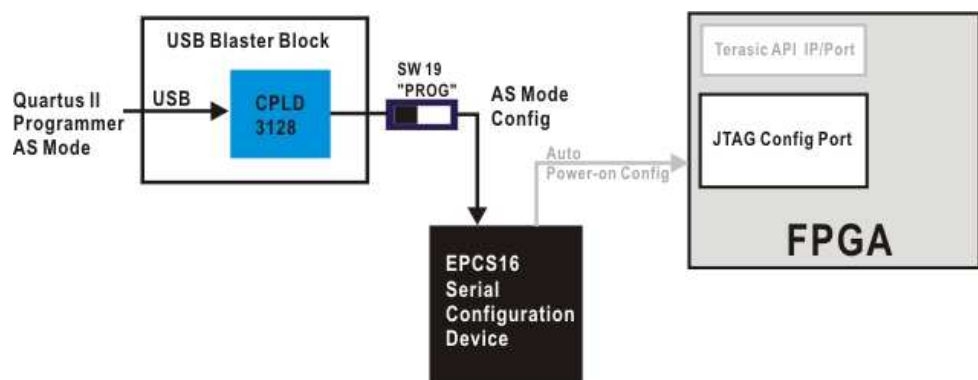

Figure 3.3 The connection and SW19 setup for AS mode programming
The bitstream can be downloaded via Active Serial Programming mode (AS mode). By default, the switch is set to the position of RUN for JTAG mode so that the SOF bistream file is downloaded directly to the FPGA chip. AS Mode, where POF bitstream is downloaded directly to the Flash-based Serial Configuration device, should be used only when the design is finalized or the design has to be tested without a PC. Set the switch to **PROG** for AS mode. Note that the switch position should be kept at **RUN** position for normal operation. Figure 3.3 shows the AS mode connection scheme. Perform the following steps to program in AS mode:
- ✓ Now users can use AS mode to configure FPGA using **POF** file. The connection is shown in Figure 3.3.